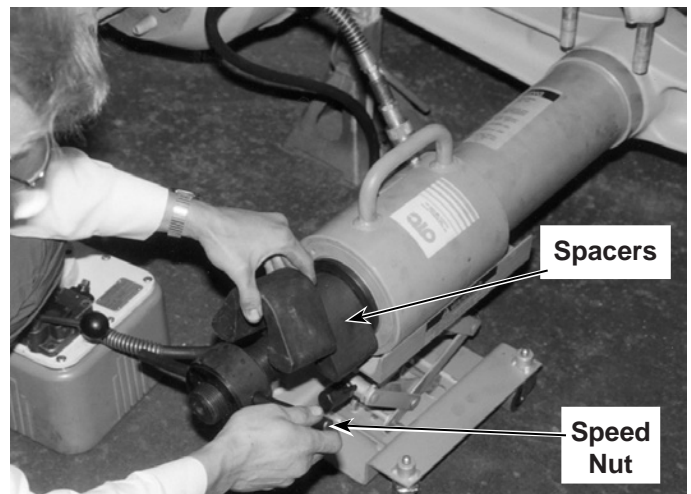

Figure 7
9. Install spacers on the cylinder screw at the rear of the cylinder/dolly assembly. Use the speed nut (302029) to remove slack from the assembly. See Figure 7. **CAUTION: To prevent equipment damage, the receiving adapter must be centered on the beam face.** If the receiving adapter is aligned too high or too low, the old bushing will interfere with the receiving adapter during removal and the bearing won't pass into the receiving tube.